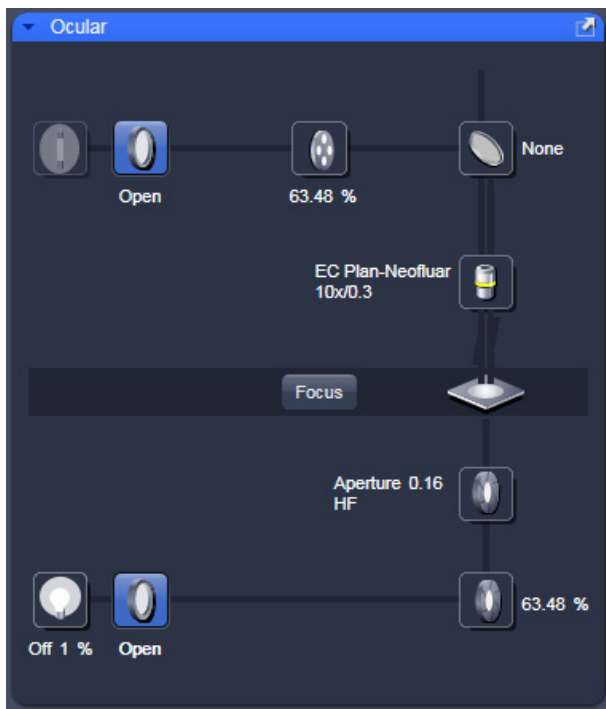

Fig. 11 Microscope Control window, e.g.: Axio Imager.Z2
Click on the **Ocular** tab for direct observation; press the **Online** button for your actions to take effect immediately. Then open the **Ocular** tool to configure the components of your microscope like filters, shutters or objectives (Fig. 11).
- Open the graphical pop-up menu by clicking on the **Objective** symbol and select the objective lens for your experiment (Fig. 11).